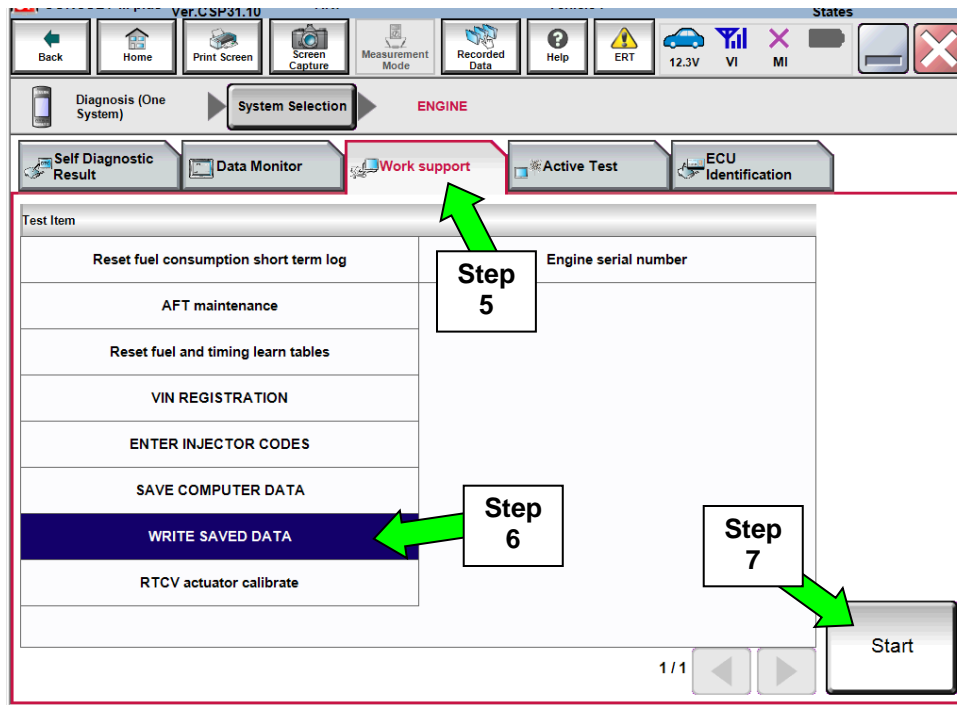

Figure 2A
5. Navigate C-III plus to Engine > Work Support (see Figure 2A).